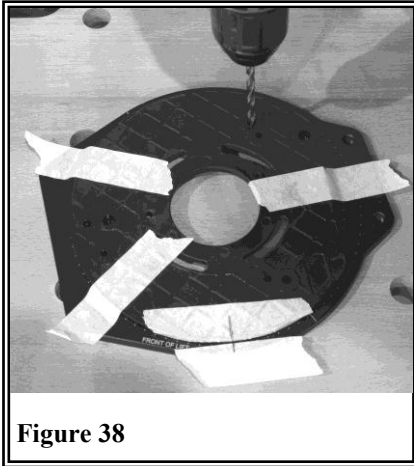

Figure 38
6. Locate the correct drill bit size and transfer the mounting hole locations from your sub base to the blank plate. Use your drill to just spot these holes on your blank plate then remove the sub base and finish drilling the holes. From the other side of the blank plate counter sink or counter bore these holes to suit the router mounting screws. You may need to source the correct size screws at your local hardware store. (See Figure 38)